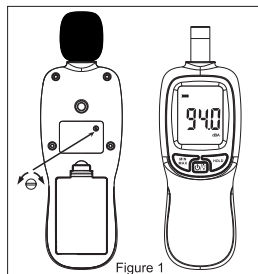

Figure 1
2. Turn on the power switch of standard sound source (94dB@1KHz), use straight screwdriver to adjust potentiometer located in the opening hole within the machine stick, and make LCD display 94.0 (referring to Figure 1).